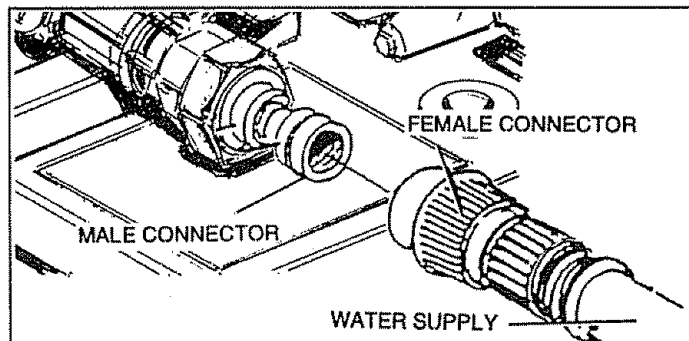

FIG. 16
- Hook up water supply (Fig. 16).